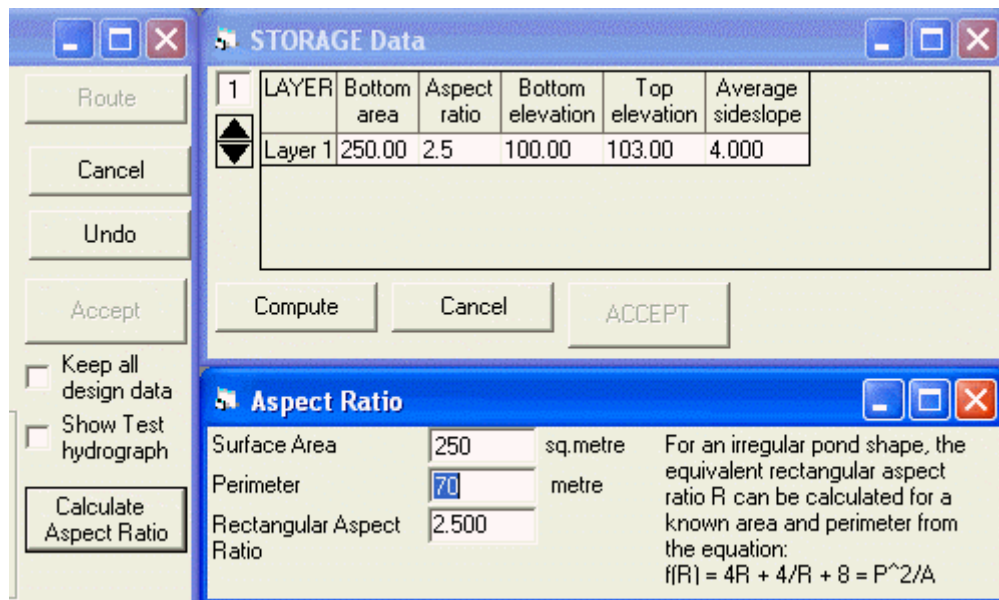

Figure D-15 – A Tool to Estimate Aspect Ratio
2. When using the 'Rectangular Pond' geometry option a Tool is made available to estimate the aspect ratio (Length/Width) of the equivalent rectangular area in terms of the measured surface area and perimeter. Figure D-15 below shows this feature in use.